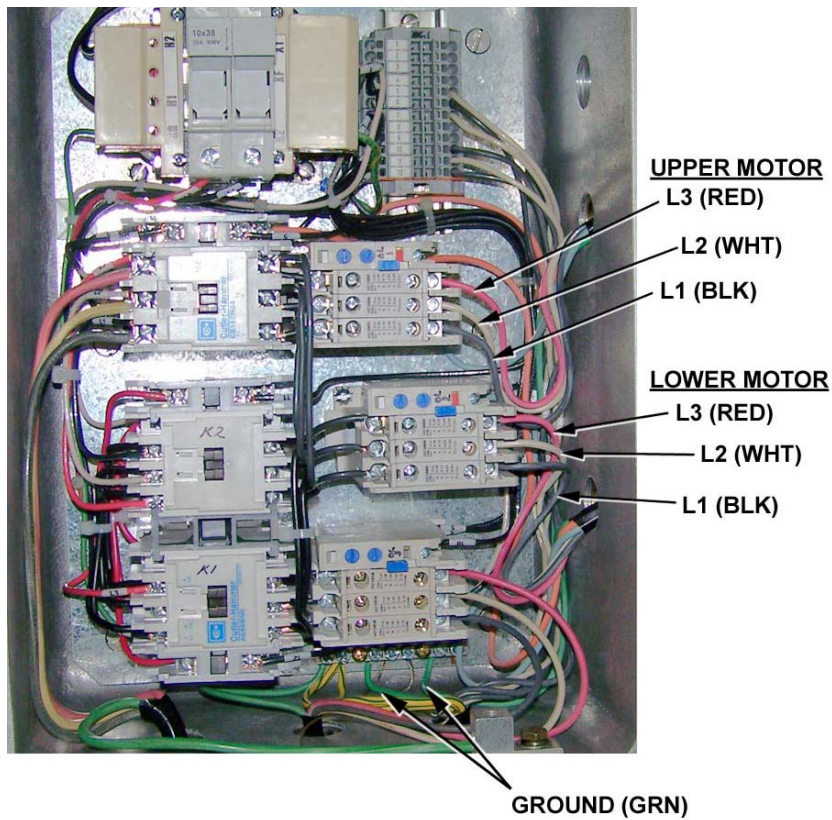

Figure 6. Typical Motor Connections to Starter Overloads
4. Connect power leads to starter overload terminals inside control panel. Typical connections are shown in Figure 6. Due to variations, however, actual connections on your equipment may be different (refer to the schematic diagram in Section 8 of your equipment manual).